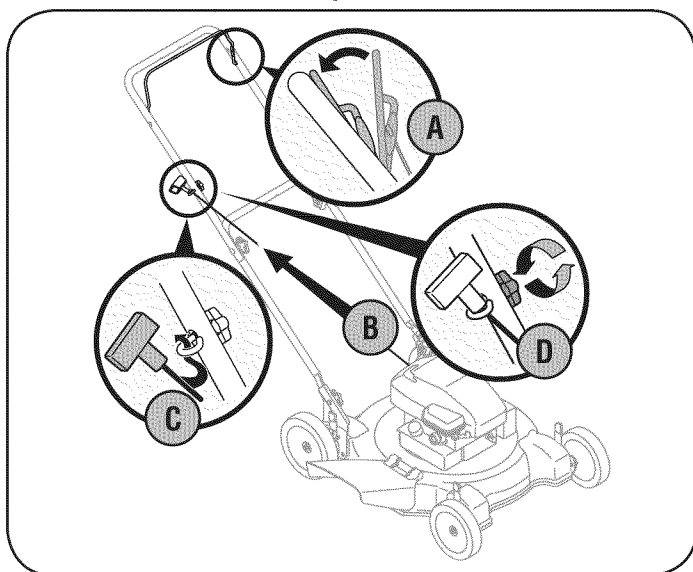

Figure 4
- The rope guide is attached to the right side of the upper handle. See Figure 4. Loosen the wing nut which secures the rope guide.